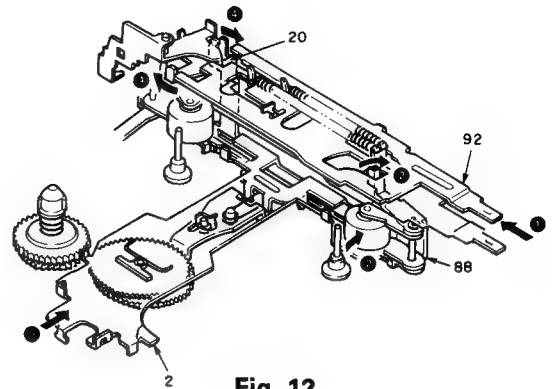

Fig. 12
e) The play gear metal (5) is engaged, per arrows (15) and (16) in Fig.11. Then play gear (6) is connected to take-up reel assembly (22) on forward side in FWD play, and connected to the other take-up reel assembly in REV play. Rotation from the play clutch (31) is transferred to take-up reel assembly per arrows (17) and (18) in Fig.11. As mentioned above, the direction in play mode can be changed. During play mode active, the head panel is moved backward by head panel return arm (88) in direction of arrow (19) in Fig.11. The Mute switch (S2) is turned on per arrow (20), and play mode is not reversed while FF/REW levers are pushed by operation of anti-reverse arm (33). See Fig.12.